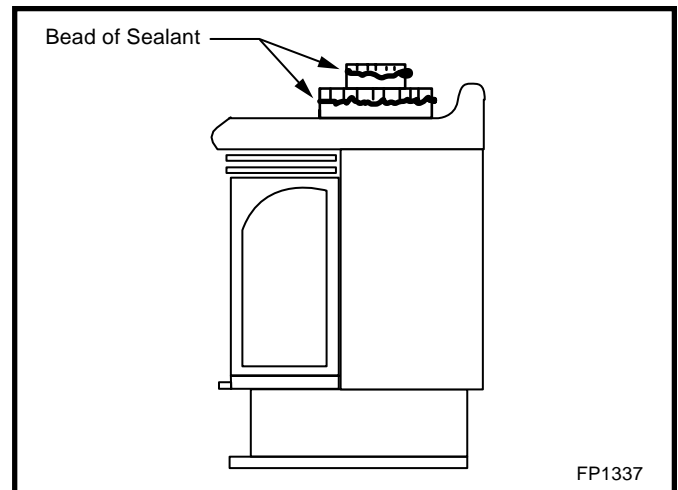

Fig. 17 Apply a bead of silicone to the inner and outer flue collars.
Apply a bead of silicone to the inner and outer flue collars of the fireplace (Fig. 17) and using appropriate length of pipe section(s), attach to fireplace with three (3) screws. Follow with the installation of the inner and outer elbow, again secure joints as described on Pages 8 and 9.